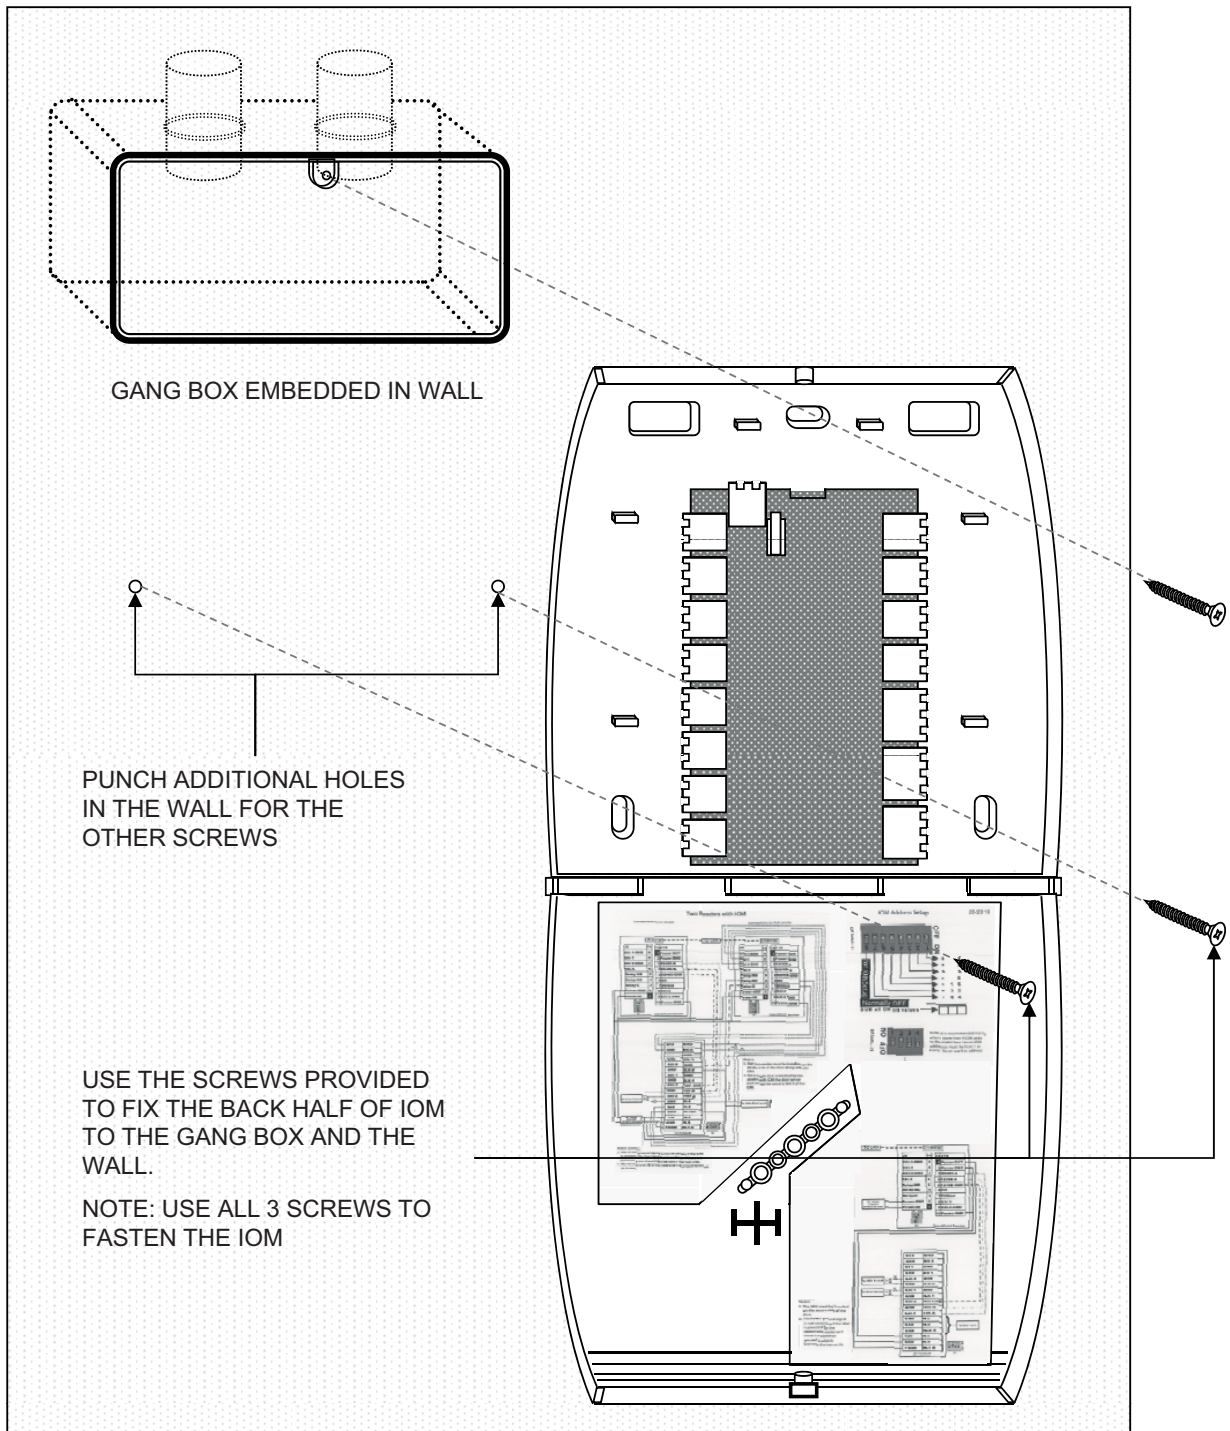

Fig. 15. Mounting the IOM on a concrete wall using gang box and conduit
2. Ensure that the correct sized gang box is securely embedded in the concrete wall. One of the holes provided in the gang box for the screws should align properly with at least the top hole provided in the IOM's back half for the screw. For the remaining screws punch additional holes at the correct places directly in the concrete wall. Use the wall anchors for additional holding strength. The gang box itself should be large enough to cover both the knock-out cable holes at the back of the IOM. See Fig.15.
3. Route the field wires from the conduits into the gang box and bring them inside the IOM via the knock-out holes. See Table.2 for wire sizes and distances. The IOM can now be mounted on the wall. Hold the back half in position over the gang box and wall. Align the three mounting screws with their holes and fasten the back half securely on the gang box and wall using the screws. See Fig.15.